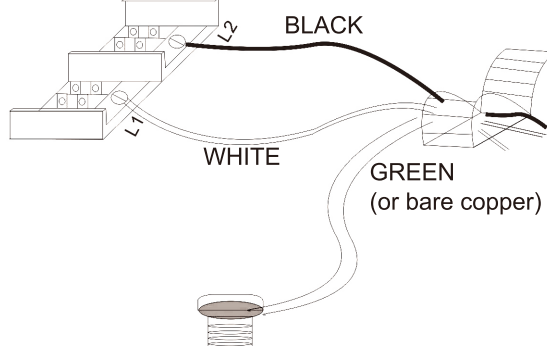

Figure 7
2. Attach the cable connectors to the unit (See Figure 7) and slide the 10-gauge wire through the cable connector.
NOTE: All wiring must be carried out by a Certified Electrician and must be in accordance to national and local electrical codes. For certain applications, conduit may be required, See Figure 7. Check local electrical codes. If you run the wiring in conduit and wish to be able to turn the heater be sure to purchase enough flexible conduit to allow the heater to be turned.
3. Connect the wire to the power block located in the base of the heater - See Figure 7.